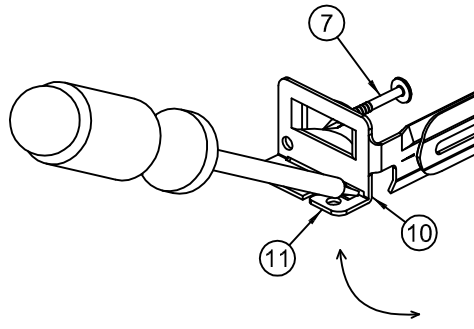

FIG.2
**B.- On Suspended Ceilings:** Place the Fixture on the ceiling grid with the "T" Bars (9) running through the Hanger Bar Notches (10). Fold the Hanger Bar ends closed to engage the integral Tabs (11). Secure with pliers if necessary. Sheetmetal screws (supplied by others) can also be used in the holes supplied (22). (Fig. 2 & 3)